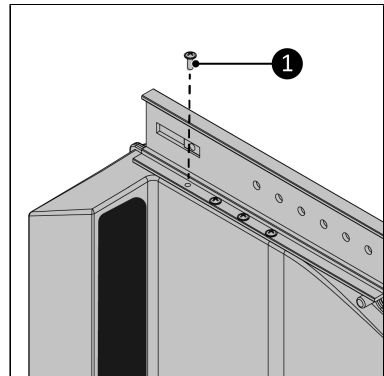

Figure 61.
6. Screw the main rail to the Way-out using the eight 3,5 x 12 mm screws (Figure 61, pos. 1). Make sure all screw holes match up.